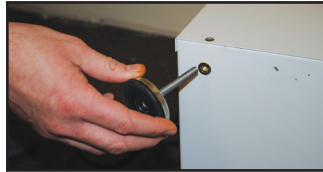

Figure 2: Insert leveling feet in locations.
See Figure 2 for installing leveling feet.
3. Align leveling foot shaft with one of the four threaded hole locations as shown in Figure 2.